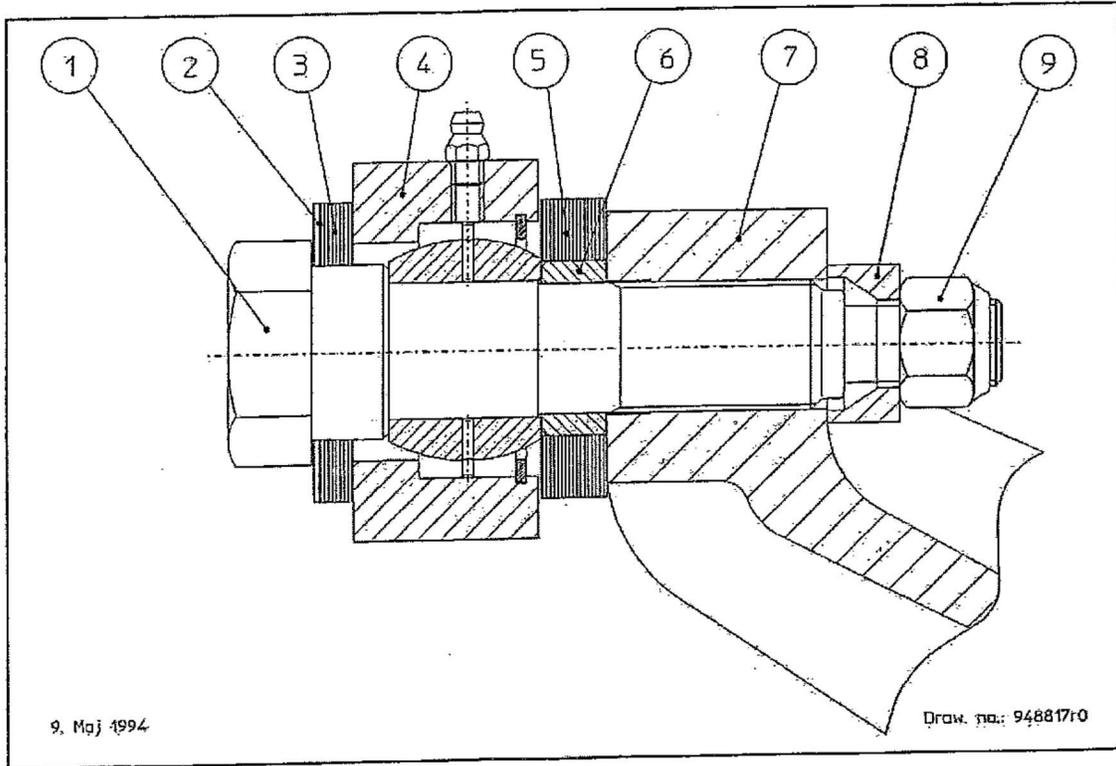

Figure 4-9. Spare parts drawing, shaft, connecting rod crank
5. **Connecting rod link bearing:** Mount a dial indicator on the connecting rod with the sensor on the bolt head of the pitch crank shaft (pos. 1, Figure 4-9 and measure the radial play in the bearing (pos. 9, Figure 4-9. If the play exceeds 0.2 mm (0.008"), the bearing must be replaced. Remember to remove the seal rings.